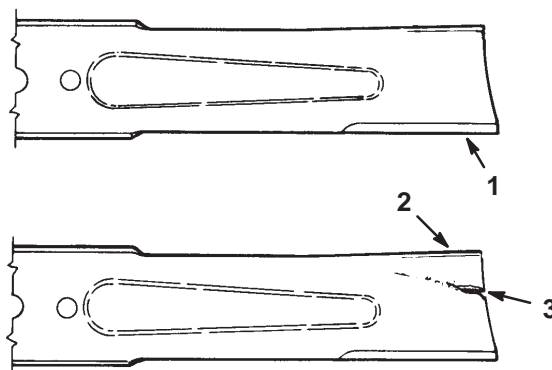

Figure 42
1. Inspect the cutting edges (Fig 42). If the edges are not sharp or have nicks, remove and sharpen the blades. Refer to Sharpening the Blades on page 32.
2. Inspect the blades, especially the curved area (Fig. 42). If you notice any damage, wear, or a slot forming in this area (item 3 in Fig. 42), immediately install a new blade.